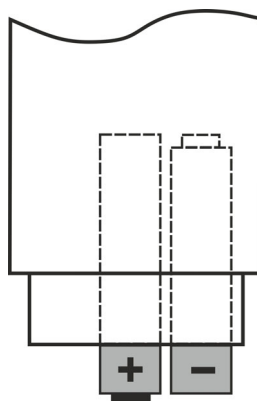

Fig. 11: Battery replacement
3. Insert new batteries of the same type (see § 7.1.2) respecting the indicated polarity (see Fig. 11)